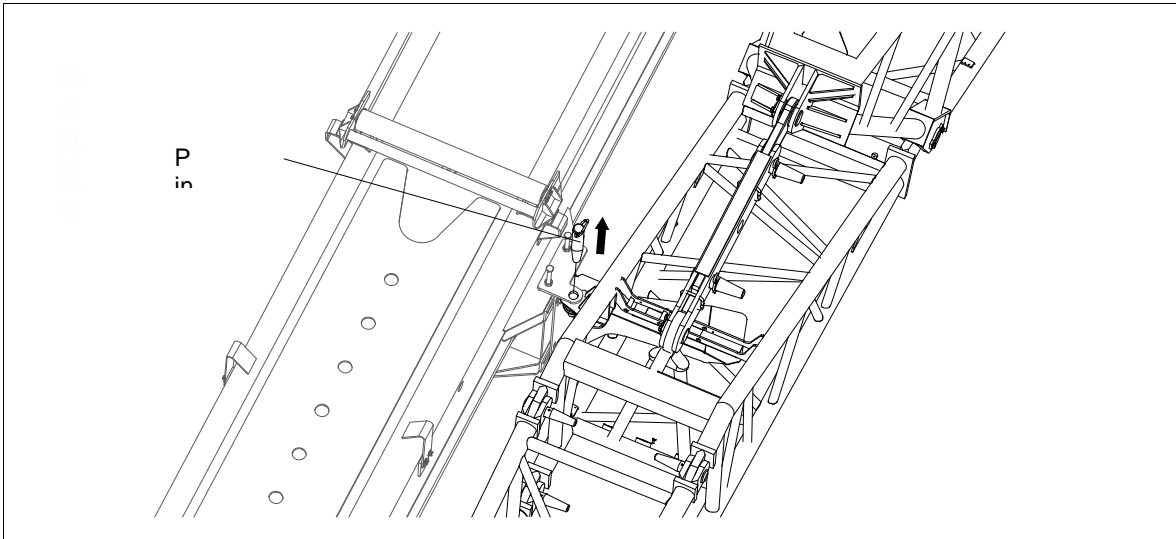

Figure 7-39 Pin IV removal
- L. Remove the pin IV. Refer to Figure 7-39.